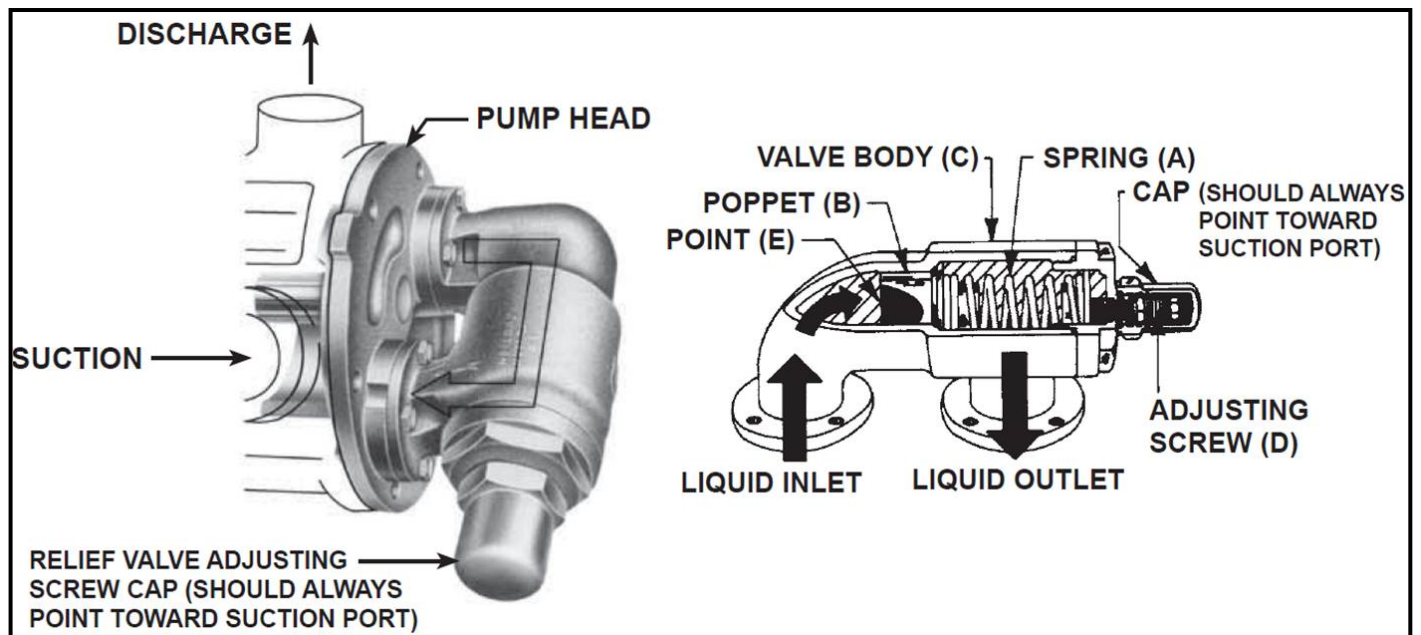

Figure 10.1 Asphalt Pump Relief Valve – Poppet Design
Viking Pump brand pumps are used in the asphalt pumping station. These pumps include an internal pressure relief (sometimes called bypass) valve which will direct the flow from the valve back to the suction side of the pump when activated. Figure 10.1 shows illustrations of the pressure relief valve which was captured from Viking Pump Technical Service Manual TSM 000, see Appendix D for the entire document.
The pressure relief is a spring loaded poppet design as shown in Figure 10.1. The spring (A) holds poppet (B) against the seat in the valve body (C) with a given force determined by the spring size and by how tightly it is compressed by the adjusting screw (D). The pump discharge pressure pushes against the underside of the poppet at point (E). When the force exerted by the liquid under the poppet exceeds that exerted by the spring, the poppet lifts and liquid starts to flow through the valve. As the discharge pressure builds up, more and more of the liquid flows through until a pressure is reached at which all of the liquid being pumped is going through the valve. This pressure is the relief valve setting.
To properly setup the small asphalt pump relief, follow the procedure below and reference Figure 10.1 for illustrations.